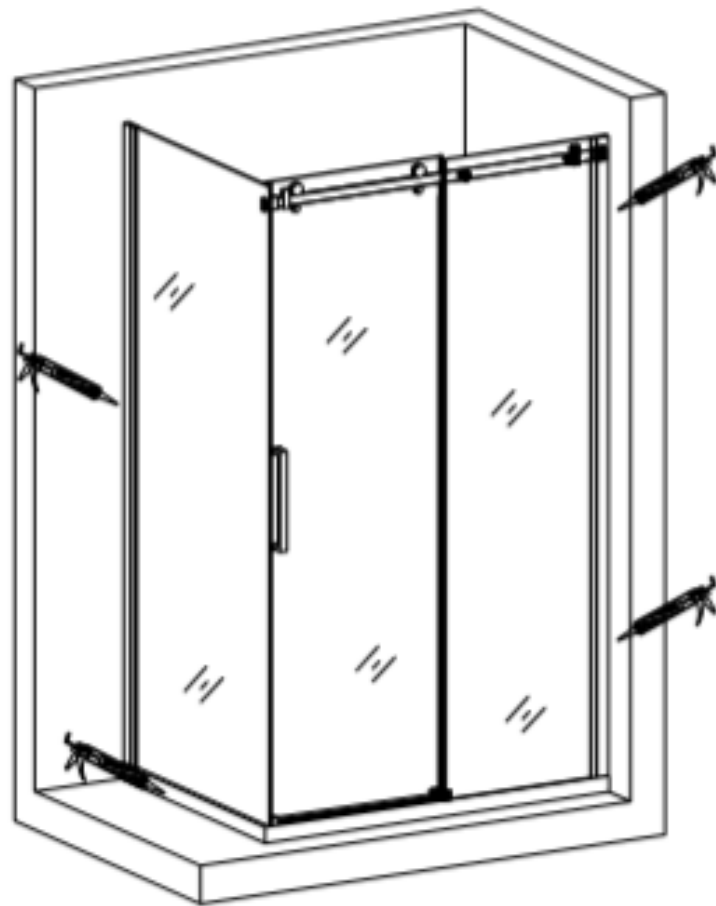

Fig 16
15. Seal with silicone caulk between wall, glass and tray or ground. (Fig 16)